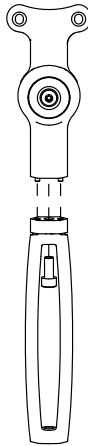

Figure 4.
4. Align the replacement leg with the base using the aligning pins. **See Figure 4.**
5. Thread the new fastener provided through the top of the leg and into the base using the 5mm hex wrench as shown in **Figure 4**. Torque fastener to 6.0 N-m (53 in-lbf).